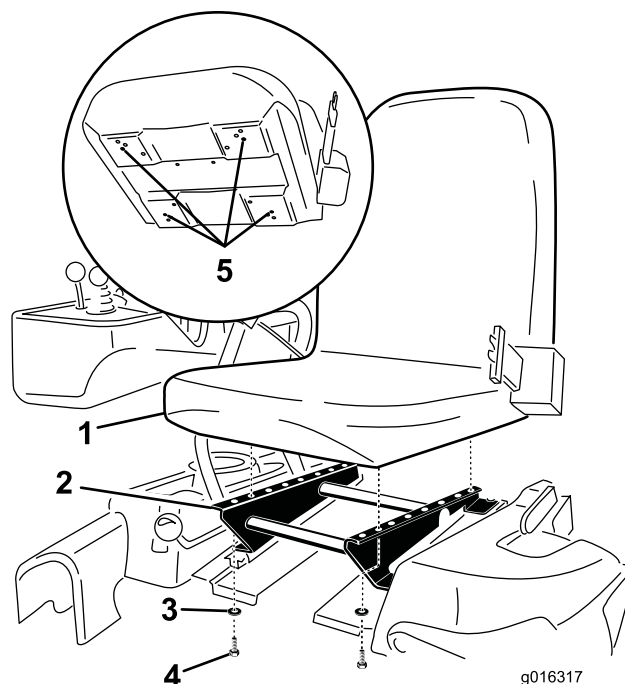

Figure 4
3. Secure the seat to the seat base with 4 bolts and washers removed previously (Figure 4).